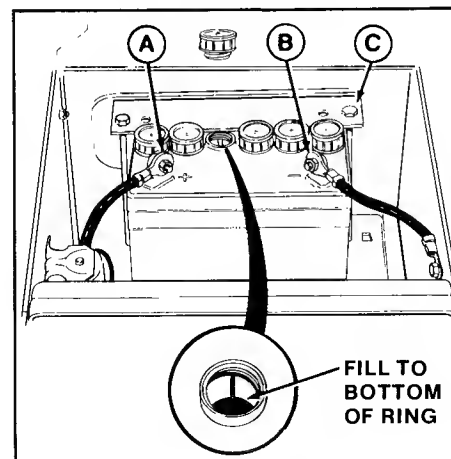

Figure 14. Battery
3. Fluid must be even with split ring full mark (figure 14). If not, add distilled water.
1. Disconnect the cables from the battery, negative cable first (figure 14).
5. Reinstall battery and clamp (figure 14).